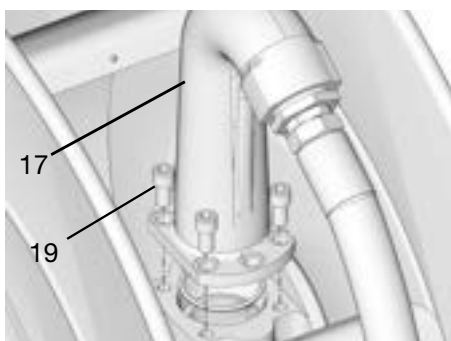

FIG. 34
2. Remove bolts (19) and outlet (17) from reel (Fig. 34).